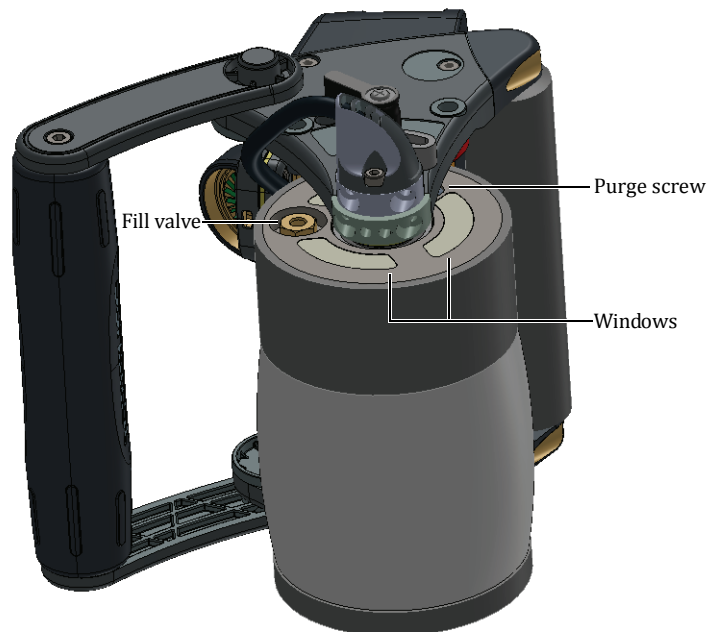

Figure 8-1 Wheel end plate of the side for water refill
- 3 Unscrew the purge screw and empty the water from the wheel (refer to Figure 8-1 on page 33).